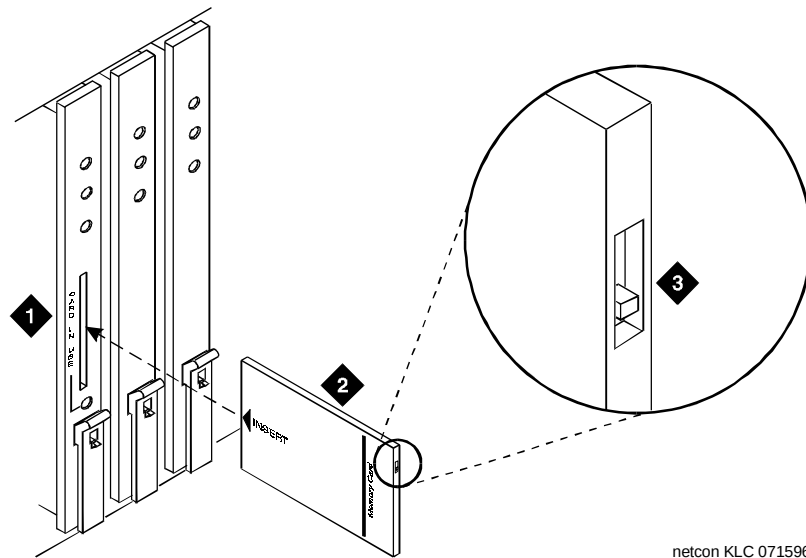

Figure 5-5. Record Switch on Translation Card
1. For each control cabinet, insert the translation card into the slot on the TN777B faceplate. See Figure 5-5.